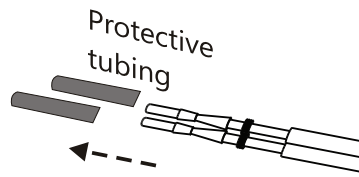

Figure 4-3
4. When the harness is through the vehicle, remove the pin's protective tubing. *See Figure 4-3.*